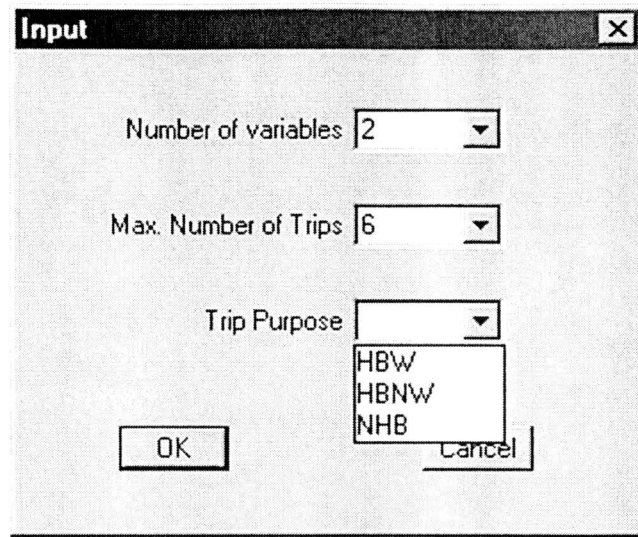

Figure II-3. Input dialog box
4. An input dialogue box will then ask users to provide information on the number of independent variables in the model coefficient file, the maximum number of trips, and the trip purpose. The user can either choose inputs from pull-down menu or type inputs directly. In this example, the number of independent variables is 2; the maximum number of trips is 6; and the trip purpose is HBW (as shown in Figure II-3).